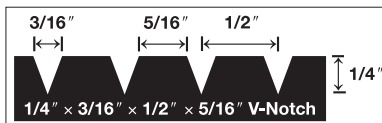

Figure 2
- 1/4" × 1/2" × 3/16" (6 mm × 13 mm × 5 mm) V-Notch trowel (Figure 2)